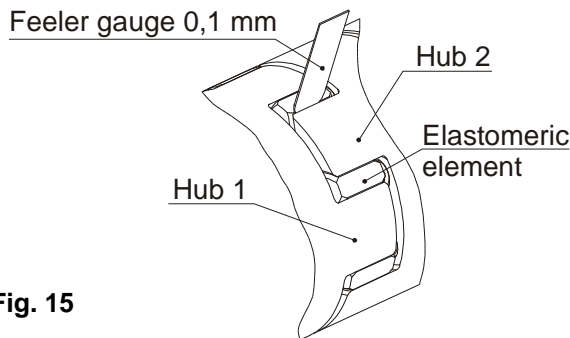

Fig. 15
No abraded particles are allowed on the Elastomeric element (2), as the ROBA®-ES is a backlash-free coupling. The gap between two jaws must be filled with the elastomer, with no room for backlash. You should not be able to insert a feeler gauge with a thickness of 0,1 mm (Fig. 15).